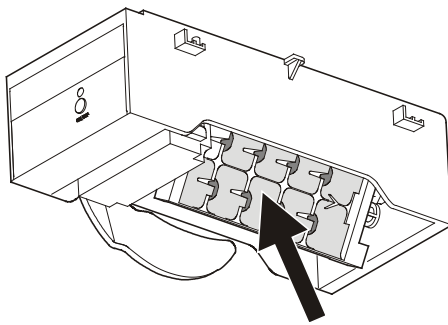

Figure 20
- After this the Ice Maker tray (**Figure 20**) must be emptied. Refer to chapter "Ice Maker at vacations".
In case of longer vacations, the ice maker tray (arrow in **Figure 20**) should be emptied.
When the interior temperature appears in the display, the tray is in the down position (**Figure 20**) and the ice maker is turned off automatically.